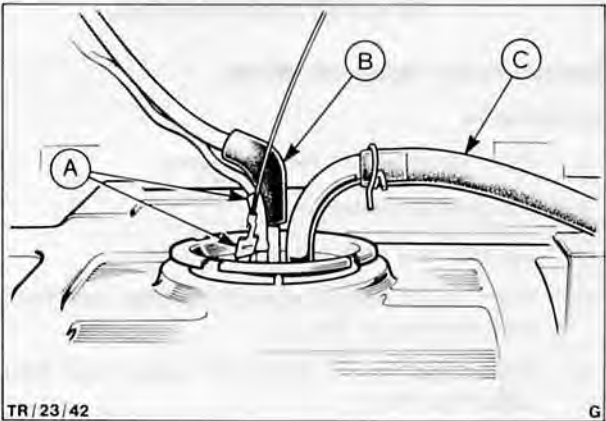

Fig. 71. Fuel tank sender unit
8. Lower tank and disconnect sender unit loom, vent pipe and fuel outlet pipe, Fig. 71.